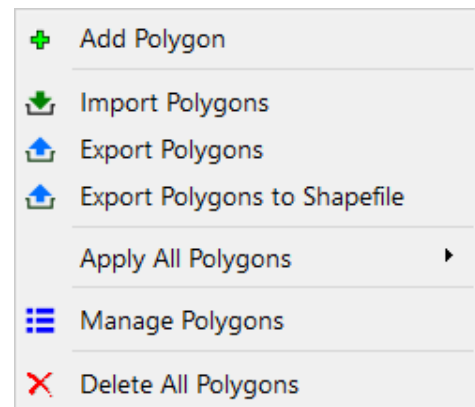
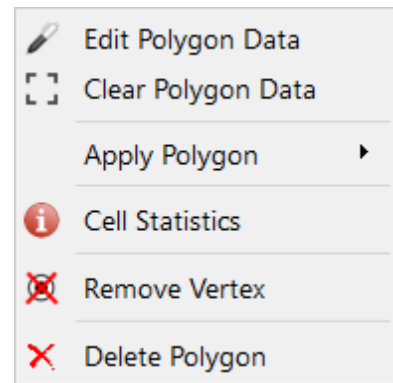

Figure 22. The Polygons Menu
Figure 25. The Polygon Data Menu
To assist in editing polygons, the Polygon Tool has two popup menus—the Polygons menu (Figure 22) and Polygon Data menu (Figure 25). The Polygons menu contains functions related to all polygons and can be opened by right-clicking on the Map Viewer. The Polygon Data menu contains functions related to an existing polygon and can be opened by right-clicking on a vertex of that polygon. The functions of these menus are given below.
1. Polygons menu (Figure 22)
2. **Polygon Data menu** (Figure 25): This menu contains functions related to an existing polygon and can be opened by right-clicking on a white vertex of that polygon.